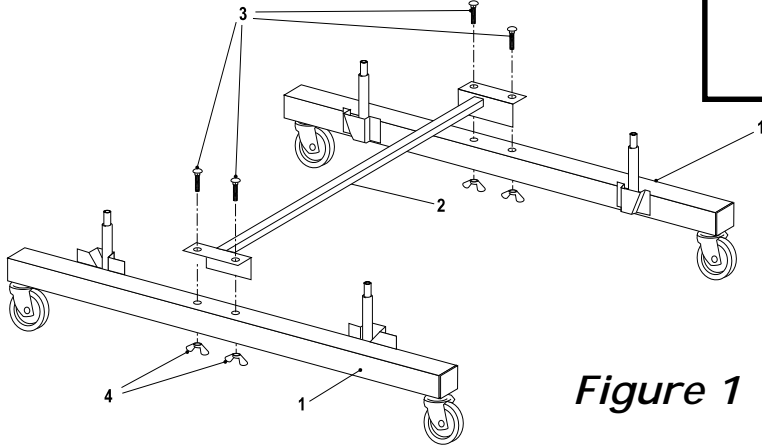

Figure 1
1. Attach cross tube (#2) to caster rails (#1) as shown in Figure 1. Turn caster rail as shown with pivot tubes toward inside, and attach tube (#2) with four carriage bolts (#3) and four wing nuts (#4). Tighten wing nuts securely.